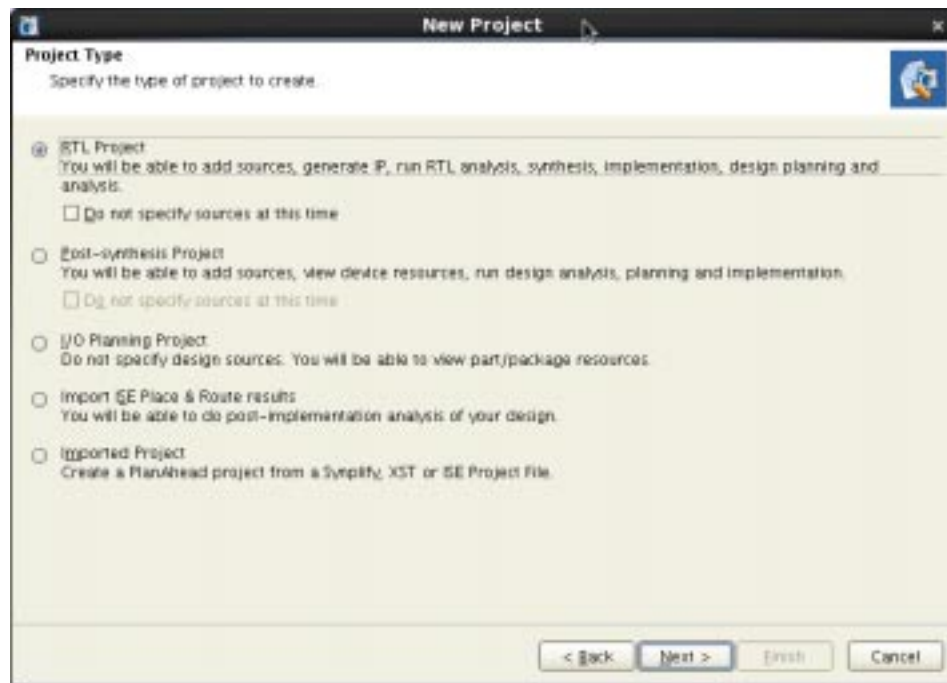

Figure 3: Specifying the Project Type.
3.3 In the Project type window, RTL Project should be already selected. Keep it as the selected project type and select Next to continue. Refer to Figure 3: